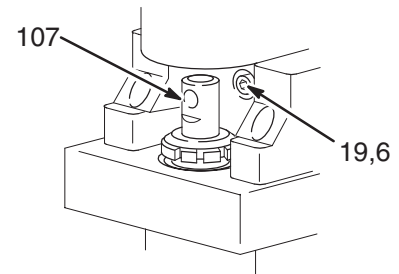
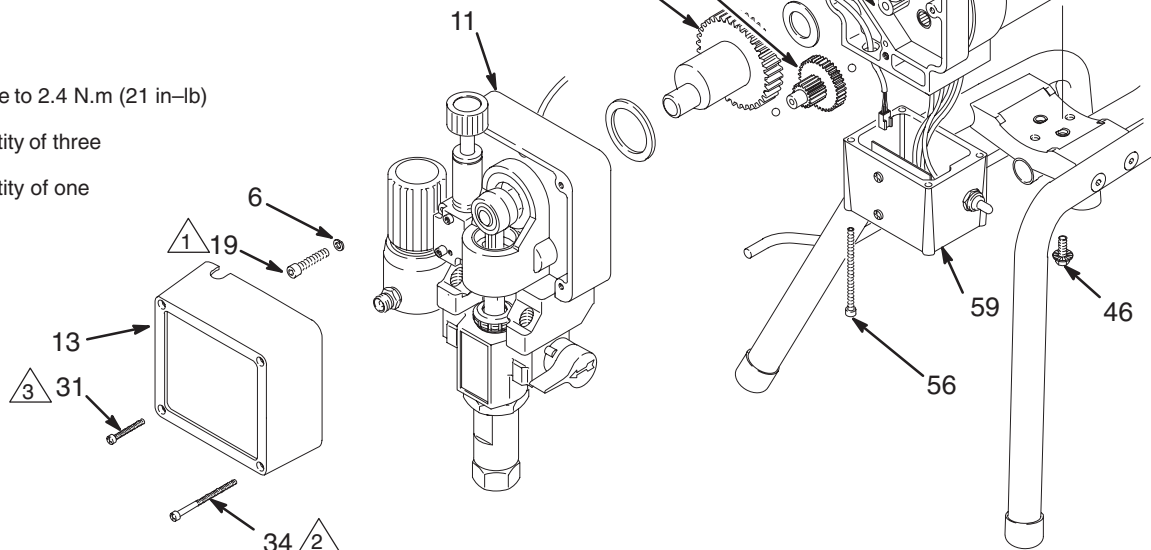
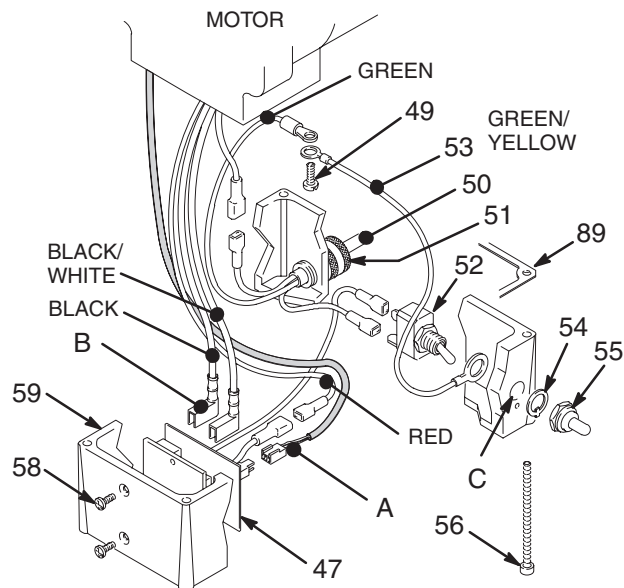

Fig. 11
Fig. 12
Fig. 13
**NOTE:** See Fig. 12 except where noted.
3. Remove the screws (56) and lower the junction box (59). Disconnect the motor wires and the pressure control wire (A) from the motor start board. Refer to Fig. 13 on page 14.
4. Remove the front cover (13).
5. Turn the displacement pump rod (107) so the pin hole aligns with the bottom drive housing screw (19). See Fig. 11. Remove the three drive housing screws and lockwashers (19,6). Also see Fig. 12.
6. Remove the two motor screws (5) and the lock washers (6).
7. Tap the lower rear of the drive housing (11) with a plastic mallet to loosen the motor. Pull the drive housing straight off the motor while guiding the harness (A) from the motor. Do not allow the gear (16) to fall. Read the CAUTION on page 15.
8. Remove the two screws (46) and lift the motor off the base (66).
9. Align the new motor with the base and reinstall the screws (46).
11. Connect the wires in the junction box. Refer to Fig. 13 on page 14. Install the junction box.
12. Connect the piston rod (107) to the drive housing; see page 12, **Installing the Pump**, Step 2 and the **WARNING** following it.
**NOTE:** See Fig. 13 for this procedure.
2. Remove the junction box screws (56) and lower the junction box (59).
3. Disconnect the motor wires (B) and the 3-wire connector (A) from the motor start board (47). Observe where connections are made.
4. Remove the screws (58) and motor start board (47). Transfer the white thermal paste from the old board to the new board.
5. Install the new motor start board. Reconnect all wires. Install the junction box. Be sure no leads are pinched against the motor or by the motor start board. Also be sure the gasket (89) is installed.
3. Disconnect the power supply cord leads, including the green wire to the grounding screw (49).
4. Loosen the strain relief bushing (51). Remove the power supply cord (50).
5. Install the new cord (50) in the reverse order of disassembly.
6. Install the junction box. Be sure no leads are pinched against the motor or by the motor start board. Also be sure the gasket (89) is installed.
3. Remove the nut and rubber boot (55).
4. Disconnect the black wires from the ON/OFF switch (52) and remove the switch.
5. Place the ring terminal of the ground wire (53) over the barrel of the new switch. Install the switch so the internal tab of the anti-rotation ring (54) engages with the vertical groove in the threads of the switch, and the external tab engages with the blind hole (C) of the junction box.
6. Powder the inside of the rubber boot (55) with talcum, then shake the excess out of the boot. Install the nut and rubber boot and tighten.
8. Install the junction box. Be sure no leads are pinched against the motor or by the motor start board. Also be sure the gasket (89) is installed.